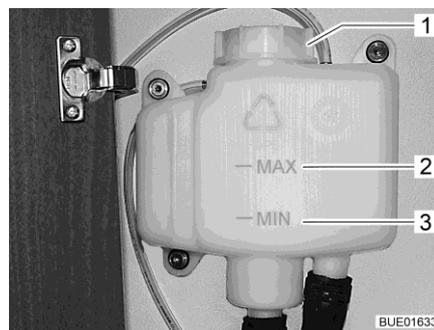

Fig. 309 Compensator reservoir without panel
- Check if the fluid level is between the marks "MIN" (Fig. 309,3) and "MAX" (Fig. 309,2) on the compensator reservoir (Fig. 309).
- Open the rotary lid (Fig. 309,1) on the compensator reservoir.